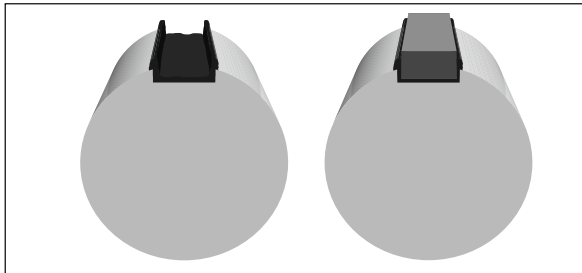

Figure 22. Fill keyway with epoxy and install coated key.
3. **APPLY EPOXY:** Apply the recommended epoxy using a spatula or putty knife. Use a thin coat on the bottom and a thicker layer on the side walls to ensure the key will not be raised and also to ensure a close tolerance fit. (See *Figure 22*)